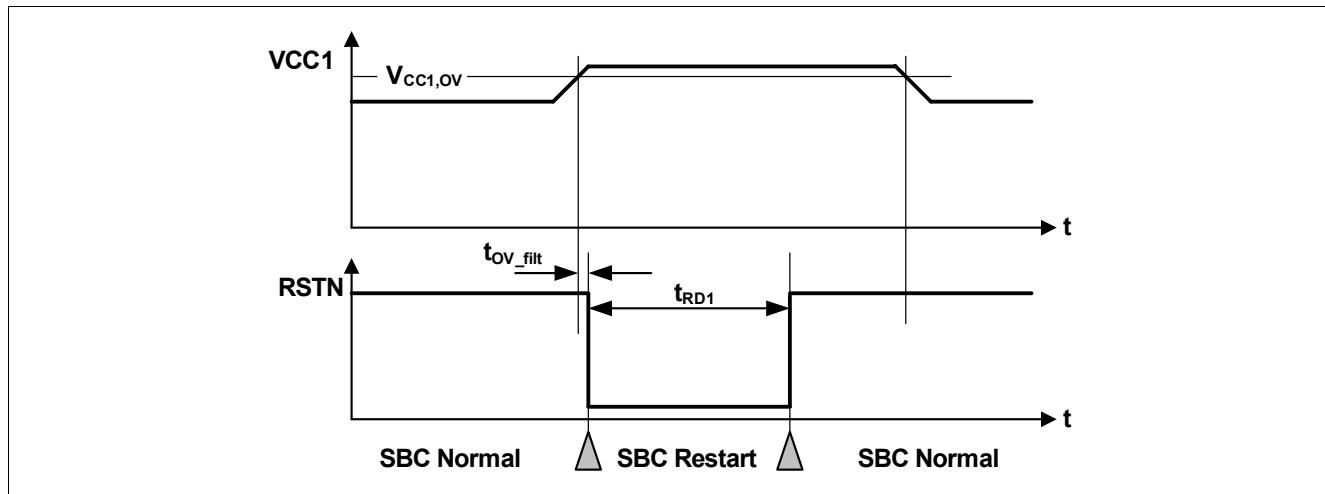

Figure 43 VCC1 Over Voltage Timing Diagram
- If the bit **VCC1_OV_RST** is set and **CFG0_STATE** = '1', then SBC Restart Mode is entered. The FO output is activated. After the reset delay time (t_{RD1}), the SBC Restart Mode is left and SBC Normal Mode is resumed even if the VCC1 over voltage event is still present (see also Figure 43). The **VCC1_OV_RST** bit is cleared automatically;